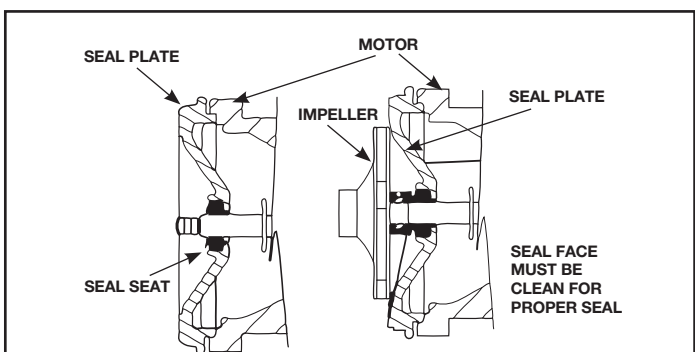

Figure 11 - Motor Shaft
- Position impeller on shaft and tighten securely (Figure 11).